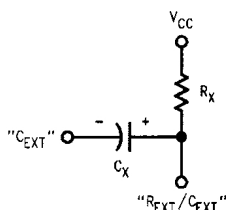

FIGURE 1.
- figure 1: monostable redéclenchable actif sur front descendant
2. When an electrolytic capacitor is used for C_X a switching diode is often required for standard TTL one-shots to prevent high inverse leakage current. This switching diode is not needed for the DM74LS123 one-shot and should not be used. In general the use of the switching diode is not recommended with retriggerable operation. Furthermore, if a polarized timing capacitor is used on the DM74LS123 the negative terminal of the capacitor should be connected to the "C_{EXT}" pin of the device (Figure 1).